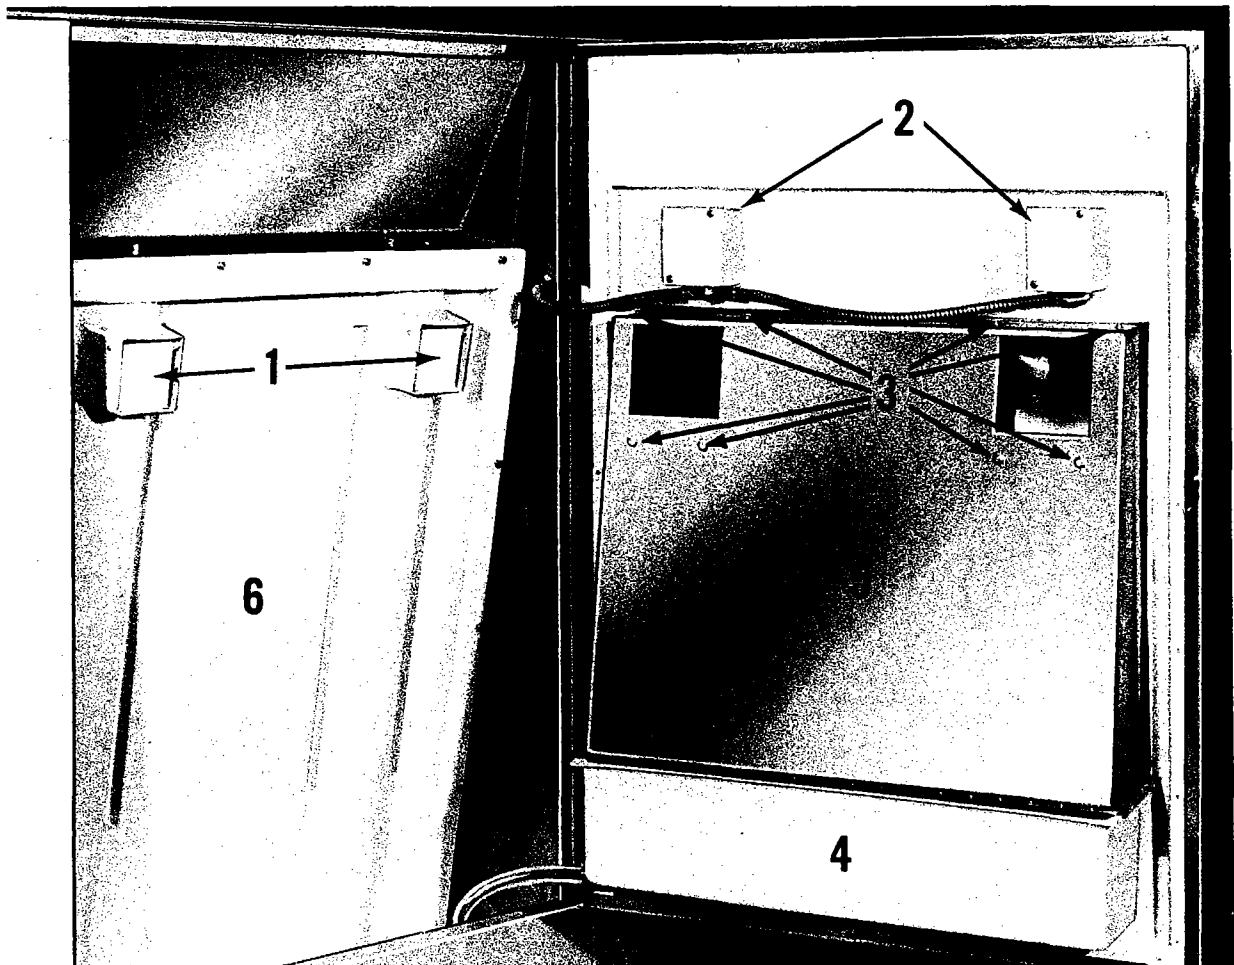

FIG. 3
1. Unlock stainless steel front door and swing open (See Fig. 3).
3. Remove switch box cover (Fig. 3).